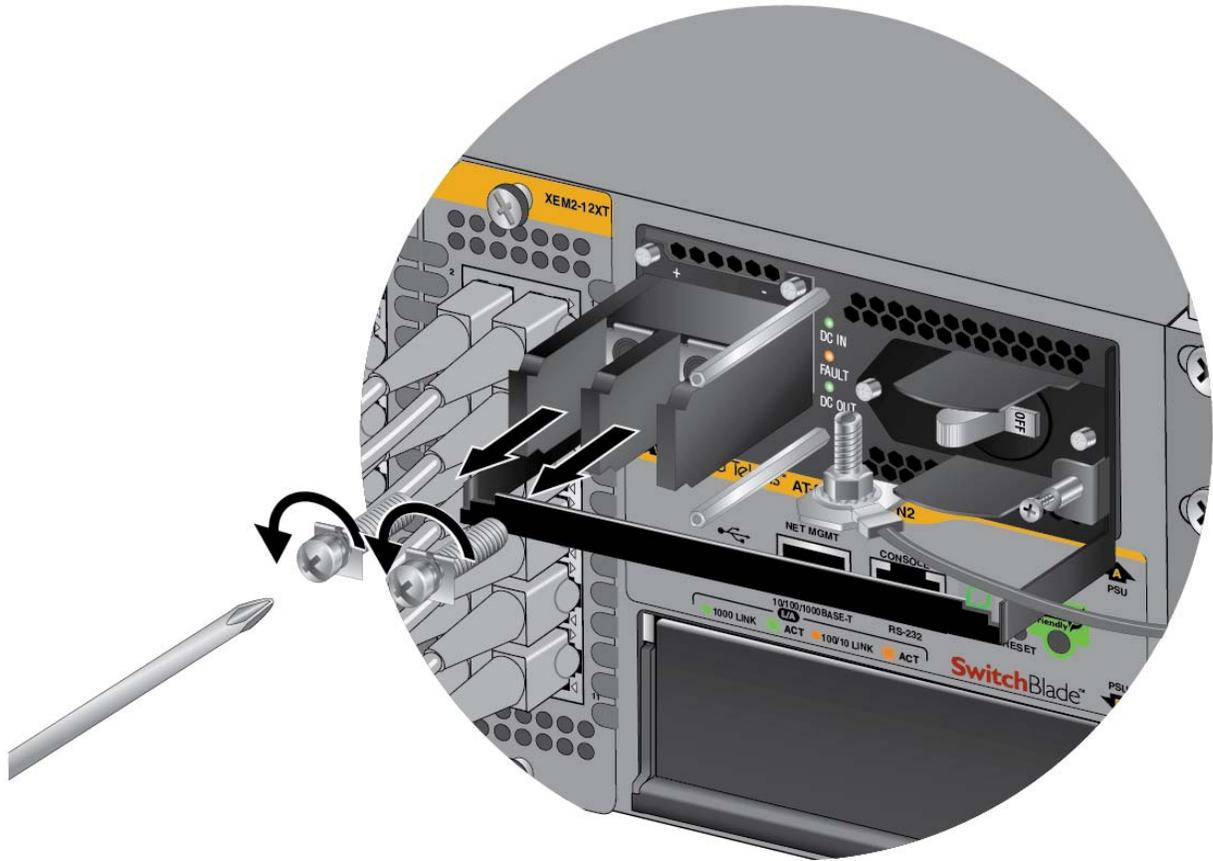

Figure 89. Removing the Terminal Screws
5. Use a #3 Phillips-head screwdriver to remove the two screws from the positive and negative terminals, as shown in Figure 89 on page 141.